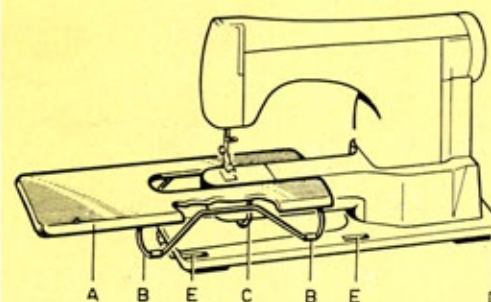

Fig. 22
- Prepare sewing base «A» so that the two side attachments «B» (Fig. 22) are slightly bent and collar «C» turned downwards;